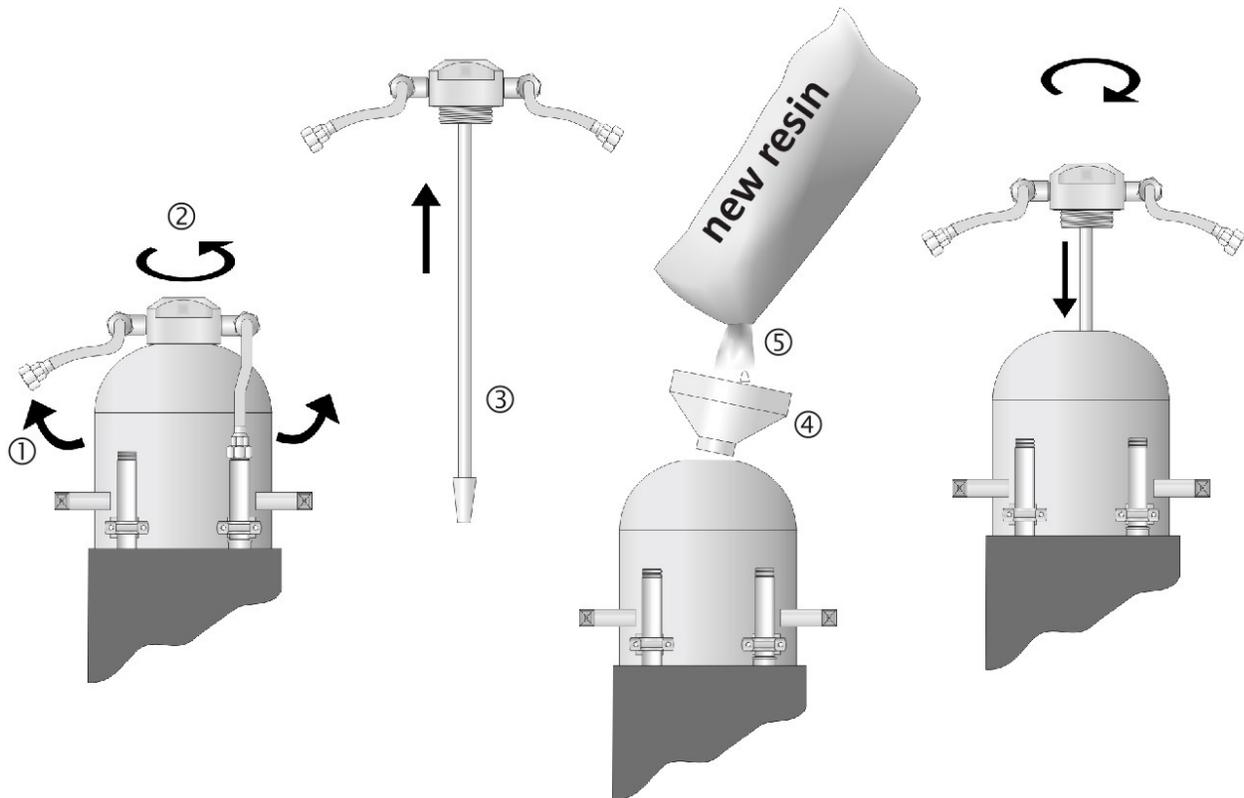

Figure 5: Filling the Puopal-Pro with new resin
b) Fill with new resin. See Fig 5 below.